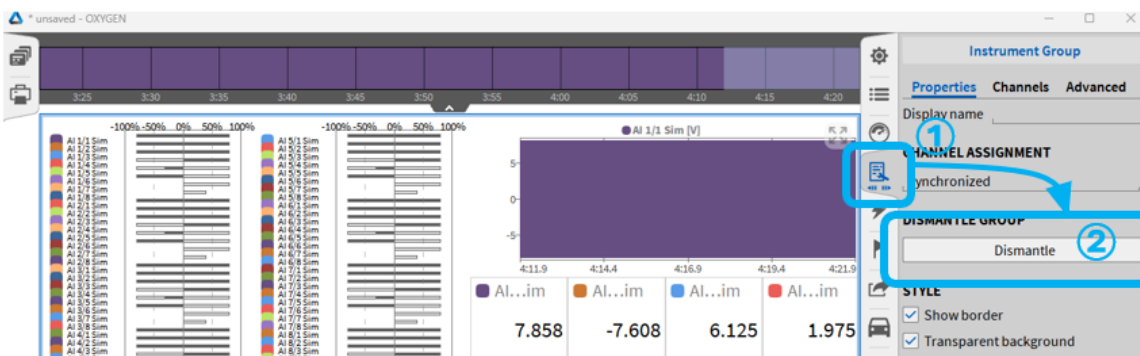

Fig. 8.6: Dismantle instrument groups
When an already created instrument group is selected and the instrument properties button will be selected (① in Fig. 8.6) it is possible to dismantle the selected group by clicking on the “Dismantle” Button (② in Fig. 8.6) .